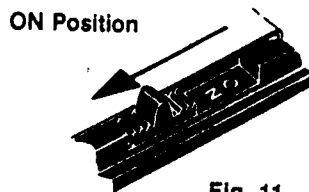

Fig. 11
8. Push chart drive switch to "ON" position exposing the word "ON." Make sure switch clicks into detent position which locks it into place. See fig. 11.